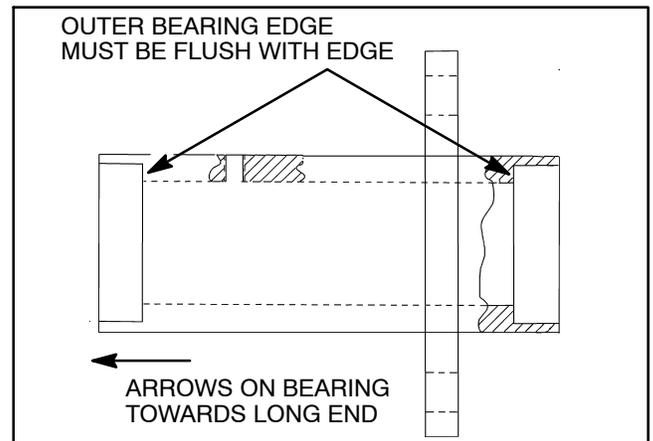

Figure 9
2. Press clutch roller bearings (item 3) into the hub as follows (Fig. 9):
A. Press three (3) roller bearings into flange end of the hub. The outer edge of the third bearing must be flush with the recessed edge within the hub.
3. Grease inner edge of the new grease seals (item 9) with No. 2 multipurpose lithium base grease. Slide one (1) seal onto motor shaft past groove closest to the motor. Install snap ring (item 8) into groove.
4. Slide flat washer (item 7) and two (2) thrust washers (item 6) onto the motor shaft. Slide hub onto the shaft with the short end first.
5. Slide remaining thrust washers (item 6) and flat washer (item 7) onto the motor shaft. Install remaining snap ring (item 8) into the shaft groove. Slide remaining new grease seal (item 9) onto motor shaft.